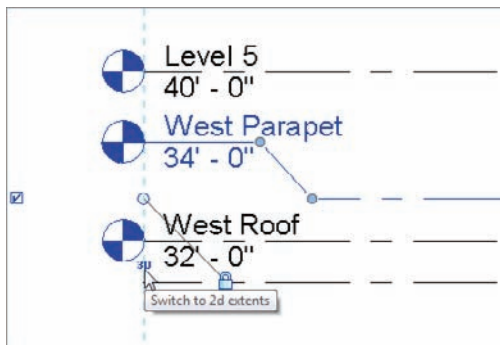
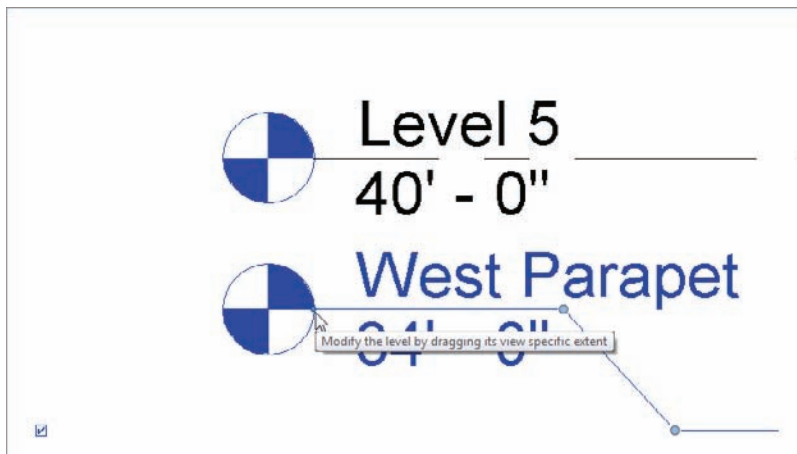

FIGURE 3.25 Turn off the 3D extents so you can drag the level end freely and without disturbing any other view.
FIGURE 3.26 The little blue grip enables you to drag the entire level.
5. Pick (left-click) the 3D icon. It now reads 2D. The larger hollow blue grip turns into a smaller, solid grip. You can now drag the level end without dragging the rest along with it. The 2D function also ensures that this modification does not affect other views (see Figure 3.25 and Figure 3.26).